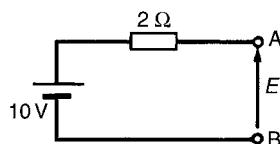

Figure 13.28
- (i) The open-circuit voltage, E , across terminals AB in Fig. 13.28 is equal to 10V, since no current flows through the 2Ω resistor and hence no voltage drop occurs.